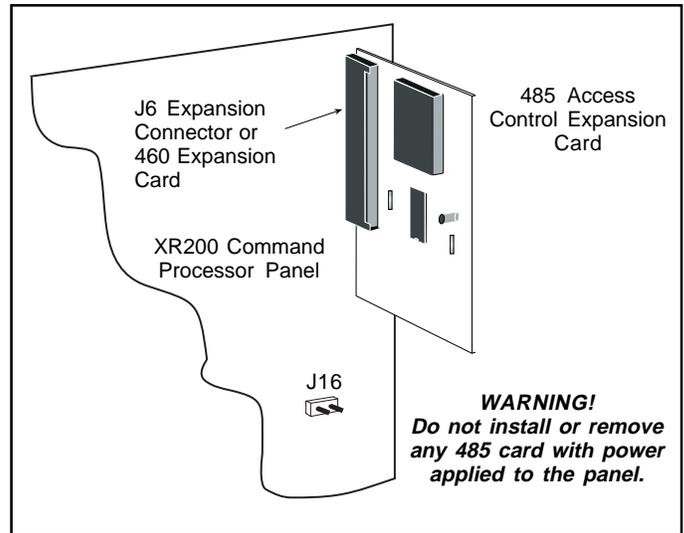

Figure 1: XR200-485 Installation
3. Gently press the 485 module into the J6 connector while applying even pressure to both sides. See Figure 1.
5. Gently press the 485 module into the J6 connector while applying even pressure to both sides. See Figure 1.